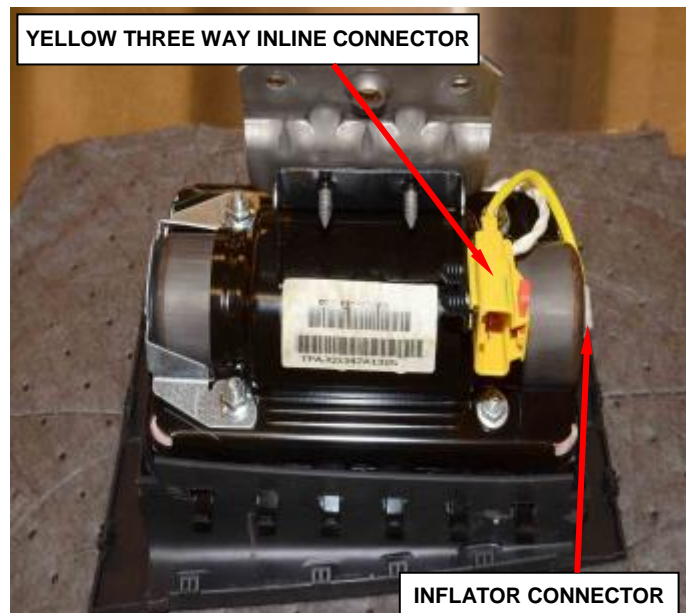

Figure 70 – Inflator Connectors
- c. Disconnect the single yellow wire inflator connector from the end of the inflator using pliers (Figure 70).
- d. Remove the yellow three way inline connector from the housing bracket (Figure 70).